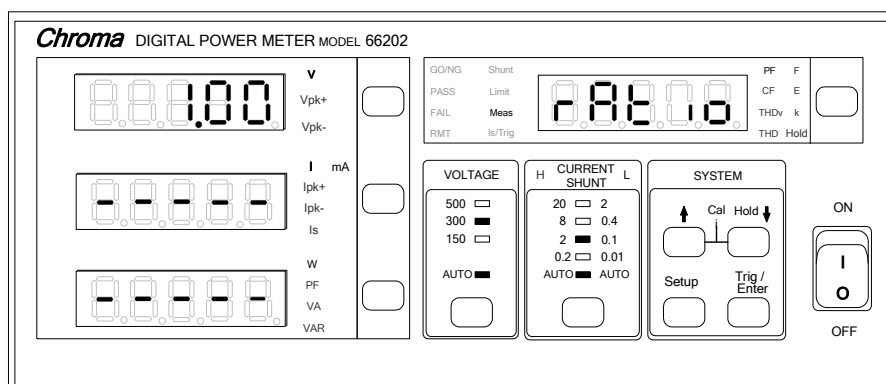

Figure 4-20 Setting RATIO
- Press **Setup** to select Meas and the indicator of Meas is on. Figure 4-20 shows the setting of RATIO.